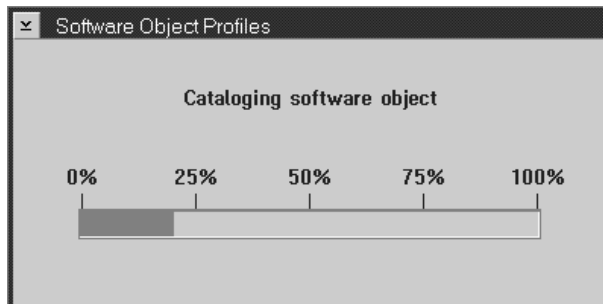

Figure 82. Software object profiles progress indicator
- 15 A progress indicator is displayed, as shown in Figure 82.